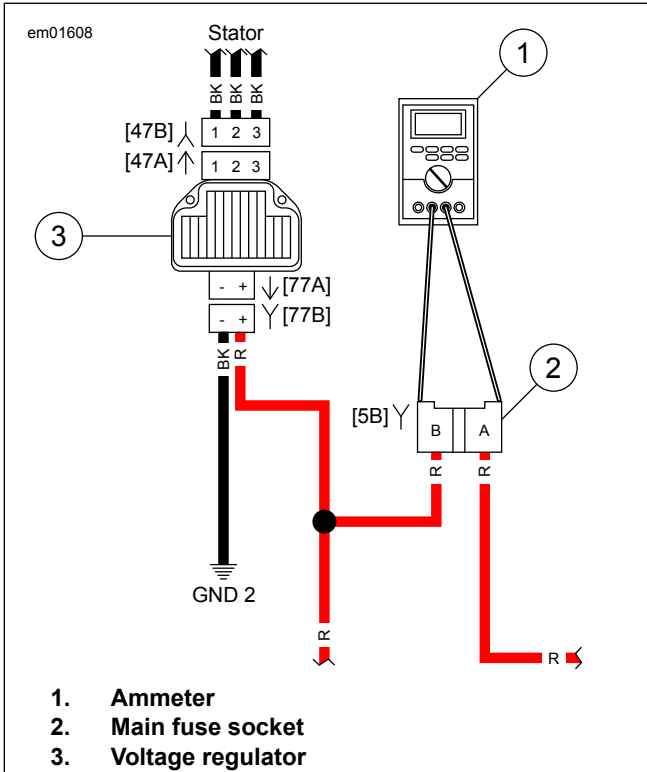

Figure 3-14. Milliampere Draw Test (Ignition Turned to OFF)
6. See Figure 3-14. Using TEST CONNECTOR KIT \(PART NUMBER: HD-41404\), connect ammeter to main fuse socket terminals. With this arrangement, you will also pick up any regulator drain.